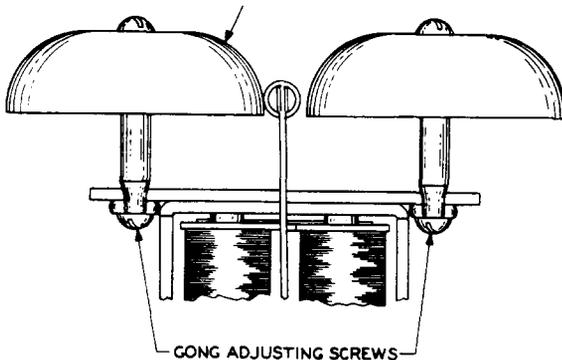

Fig. 14 - Adjusting Screws for B3B Ringers
↖ (4) If the gong mounting is of the style shown in Fig. 14, loosen the gong adjusting screws with the 4-inch regular screwdriver and shift the gong mounting post as required.